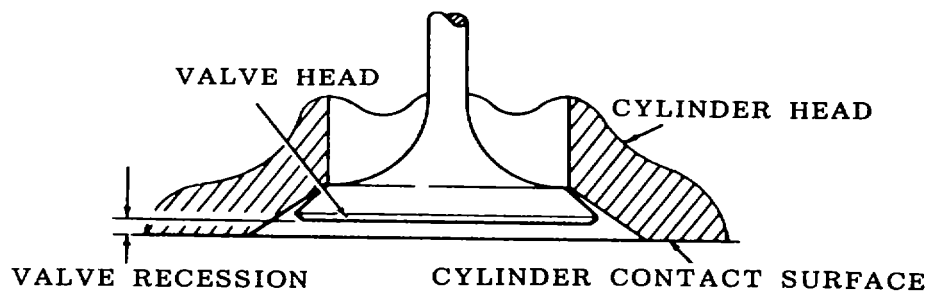

Figure 6-2. Checking Valve Recession.
- (4) Check that inside diameter of each valve guide does not exceed 0.2779 inch (7.059 mm).
- (5) Check that valve seat angle does not exceed 45 degrees.
d. Repair. (Refer to figure 6-2).
- (1) If the inside diameter of a cylinder head valve guide exceeds 0.2779 inch (7.059 mm), replace valve guide. Press out valve guide.
- (2) From cylinder head bottom, push valve guide out of cylinder head. Insert new valve guide into cylinder head. Install new valve guide by pressing in. Minimum inserting pressure is 220 inch-pounds (245 cm-kg).